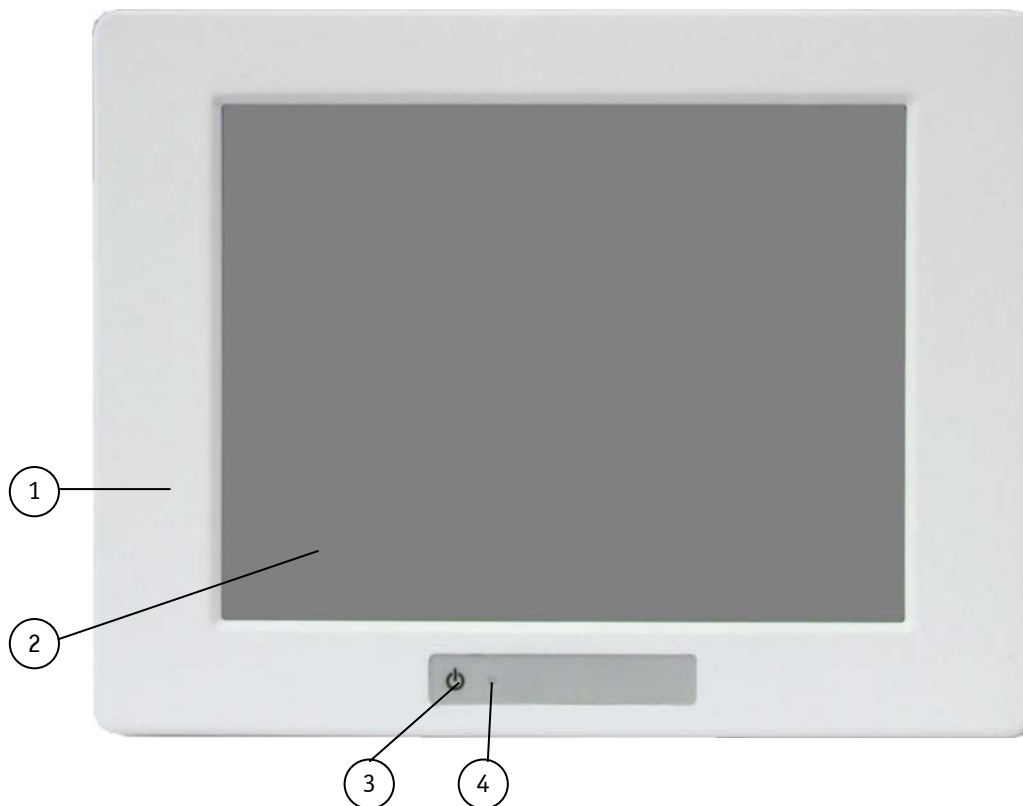

Fig. 7: Front view of the Medi Client IIA (shown as Medi Client IIA 104)
The power button (Fig. 7, pos. 3) allows to power ON or OFF the Medi Client IIA system. This power button works in an "OR" function together with the power button located on the interface side. Refer to the section 7.2.2 "Power Button on the Interface Side).
The power LED (Fig. 7, pos. 4) indicates the power states of the system.